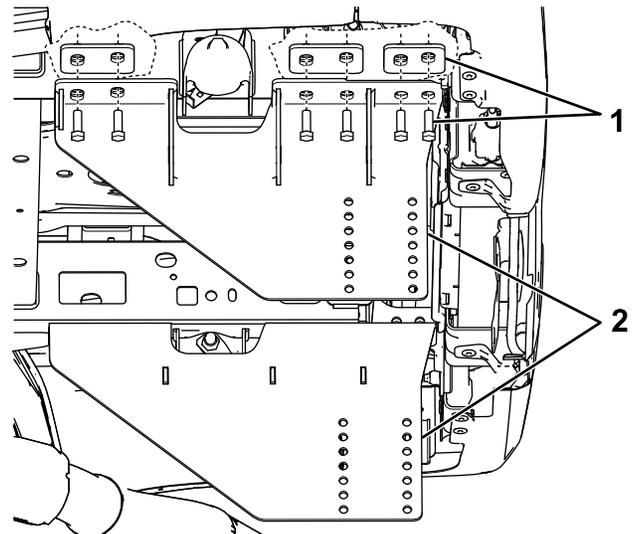

Figure 1
4. On the underside of the rear of the vehicle, loosely attach the undercarriage sideplates to the frame using the previously removed fasteners (Figure 1).